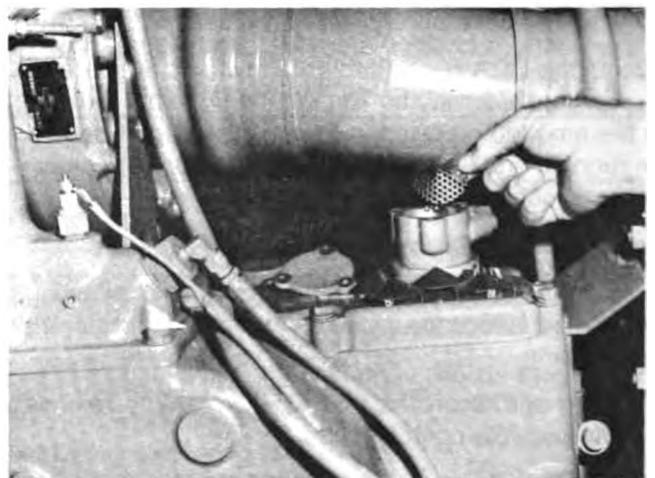

Fig. 2-25. (N11934). Crankcase breather — screen type
2. Remove capscrews, washers, cover, screens and baffle if used, from the breather body. Fig. 2-25.